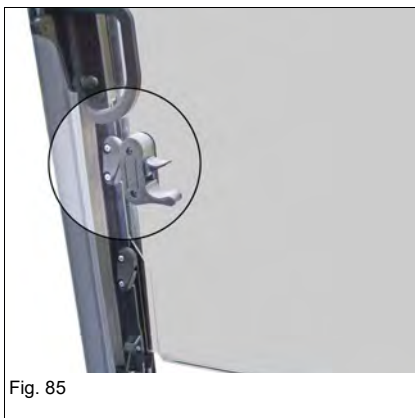

Fig. 85
- ▶ The lower front window must be fully open when the entire front window is opened or closed (*Fig. 85*).